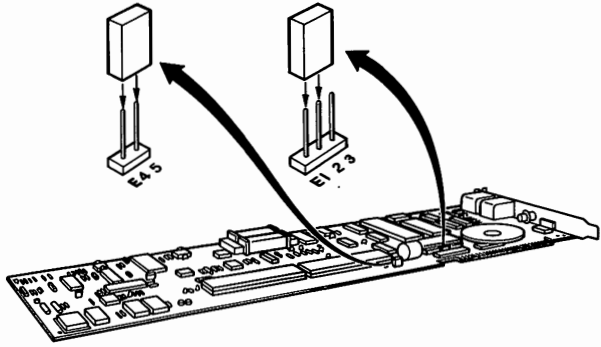
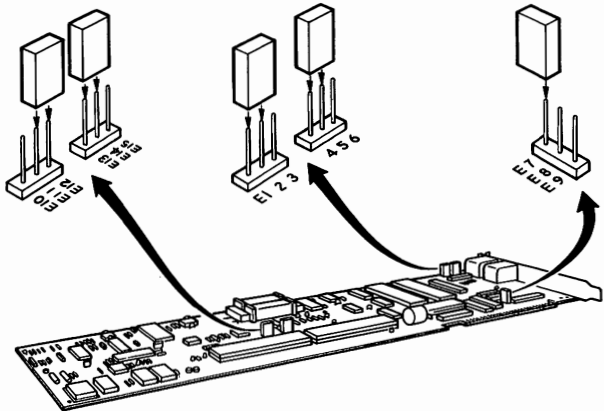

Fig. 2-2. Modem option board with speaker.
Fig. 2-3. Modem option board without speaker.
3. Look at Fig. 2-2 and Fig. 2-3 to identify your modem option board. Notice that the board pictured in Fig. 2-2 has a round speaker in the lower right corner. If you have this board, go to Step 4. If you have the board pictured in Fig. 2-3, go to Step 5.
4. Make sure the jumpers on your board are positioned over the following pairs of pins: E4 and E5; and E1 and E2. See Fig. 2-2.
5. Make sure the jumpers on your modem option board are positioned over the following pairs of pins: E1 and E2; E4 and E5; E7 and E8; E11 and E12; E13 and E14. See Fig. 2-3.